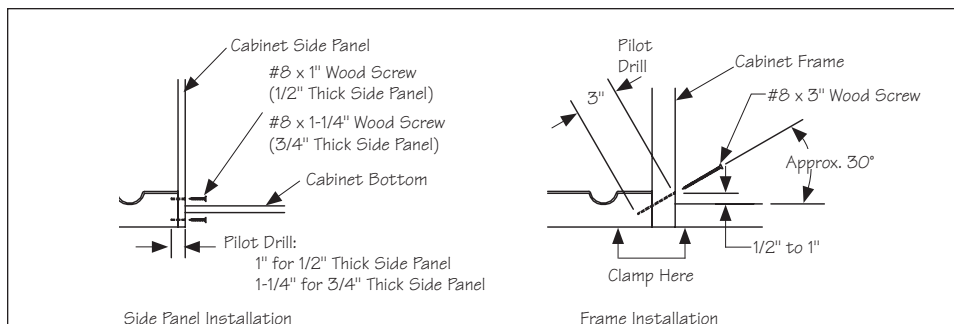

Figure 7
- Position rack(s) at desired locations. If installing to cabinet frames, wood clamps may be used to secure the Front Rack to the cabinet frames to ensure that the Front Rack will be flush with the cabinet frames. From the inside of the adjacent cabinets, drill pilot holes into the ends of the racks. For installing to side panels, use the pilot holes drilled in Step 4 as guides. See Figure 7.